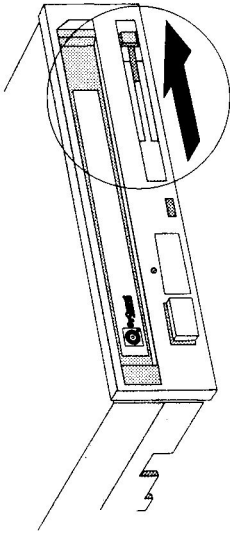

Figure 13. Pushing the Load Lever to the Right
3. Push the load lever to the right, as far as it will go (see Figure 13).